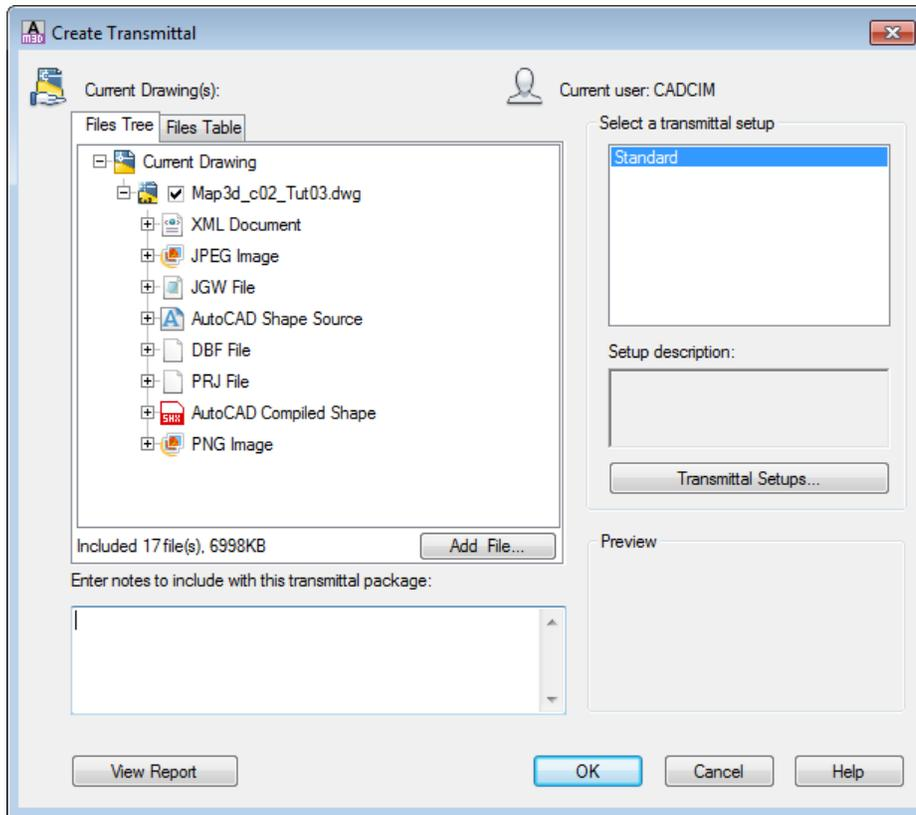

Figure 2-30 The Create Transmittal dialog box with files available for transmittal
2. Choose the **Yes** button in this message box; the **Create Transmittal** dialog box is displayed, as shown in Figure 2-30.